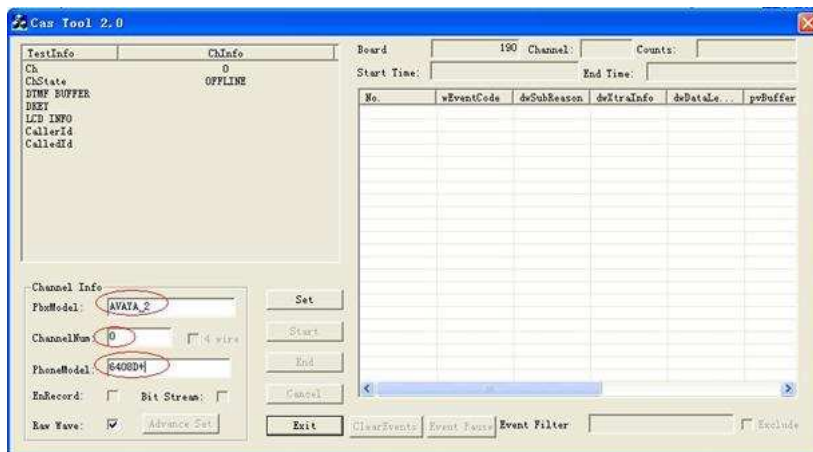

Figure 2-22
**Step 2:** Fill in the PBX and phone models and the specified channel number respectively for the items 'PbxModel', 'PhoneModel' and 'ChannelNum' as shown in Figure 2-22. Such information will be saved to the end of the recorded data file.